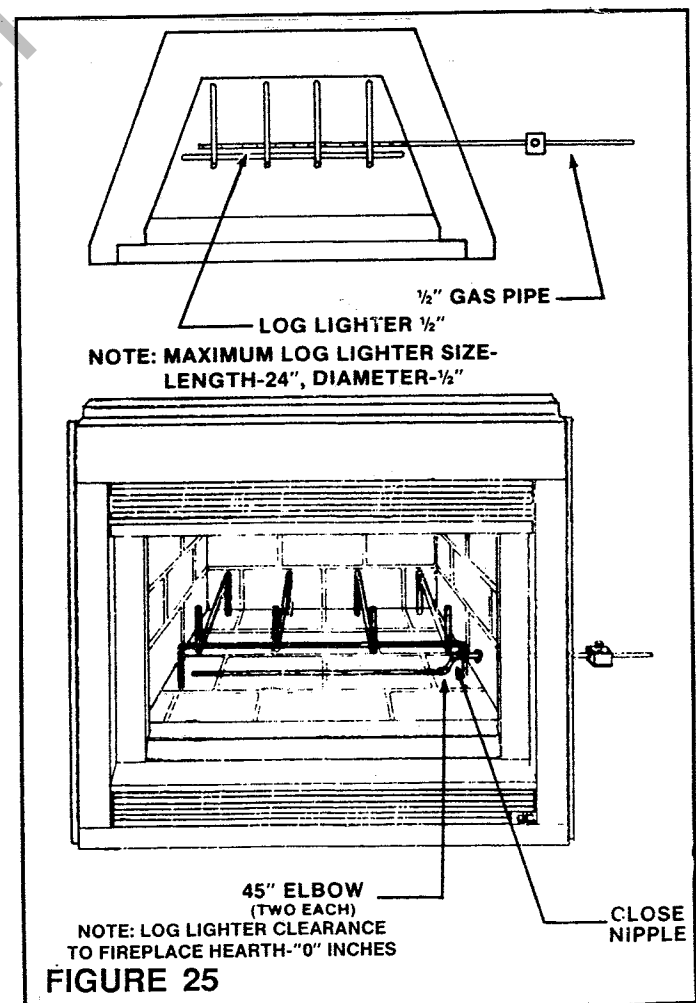

FIGURE 25
- 4) INSTALL GAS LOG LIGHTER MAX. 24" LONG, $\frac{1}{2}$ INCH DIAMETER TO ELBOW. (SEE FIG. 25). GAS LOG LIGHTER MUST BE INSTALLED FLUSH TO THE HEARTH FLOOR OF YOUR APPLIANCE. **DO NOT** ELEVATE GAS LOG LIGHTER. YOUR GAS LOG LIGHTER IS NOW READY FOR USE.
When the fireplace and hearth extension are not installed at the same height a custom safety strip will be required. The safety strip shall be constructed of a minimum thickness of .018 galvanized steel and should be shaped as shown in Figure 25.